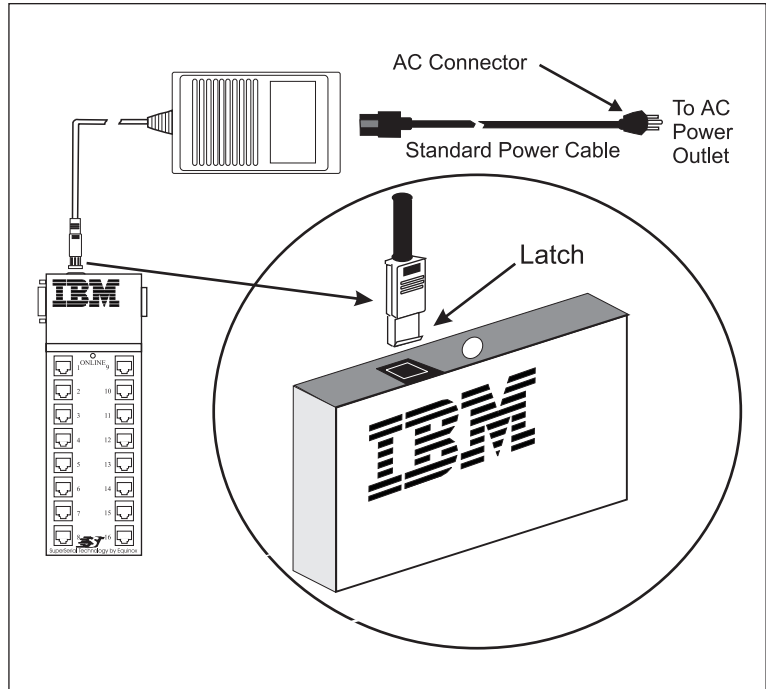

Figure 3-7. Model PS-4 Power Supply.
The *PS-4* (see Figure 3-7), is a universal power supply and automatically adapts to the input power voltage (100 - 250 VAC, 50/60 Hz).
2. Insert the DC output cable plug into the Expansion Module connector with the latch of the plug facing the front of the Module (see Figure 3-7 insert). Press down firmly until a snapping sound is heard.